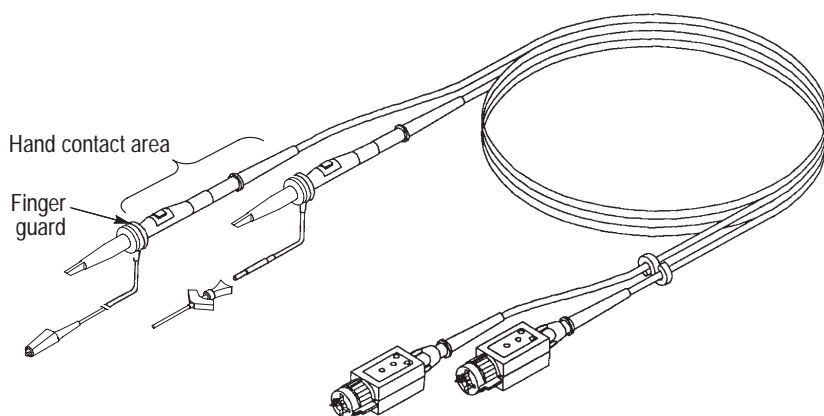

Figure 1–2: Probe finger guard and hand contact area
The following table discusses P6135A probe pair components, connectors, and standard accessories. Refer to Figure 1–1 to identify items within the probe pair.
**WARNING.** To avoid electric shock when using the probe, keep your fingers behind the finger guard on the probe body. See Figure 1–2 below.